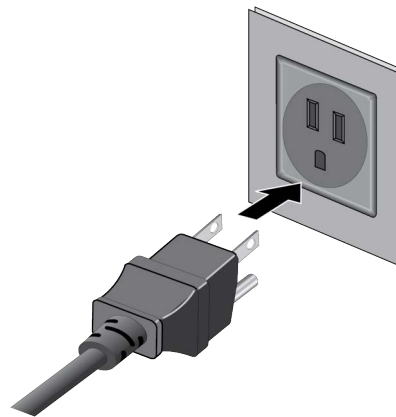

Figure 67. Connecting the Power Cord to an AC Power Source
4. Connect the power cord to an appropriate AC power source. Refer to Figure 67.